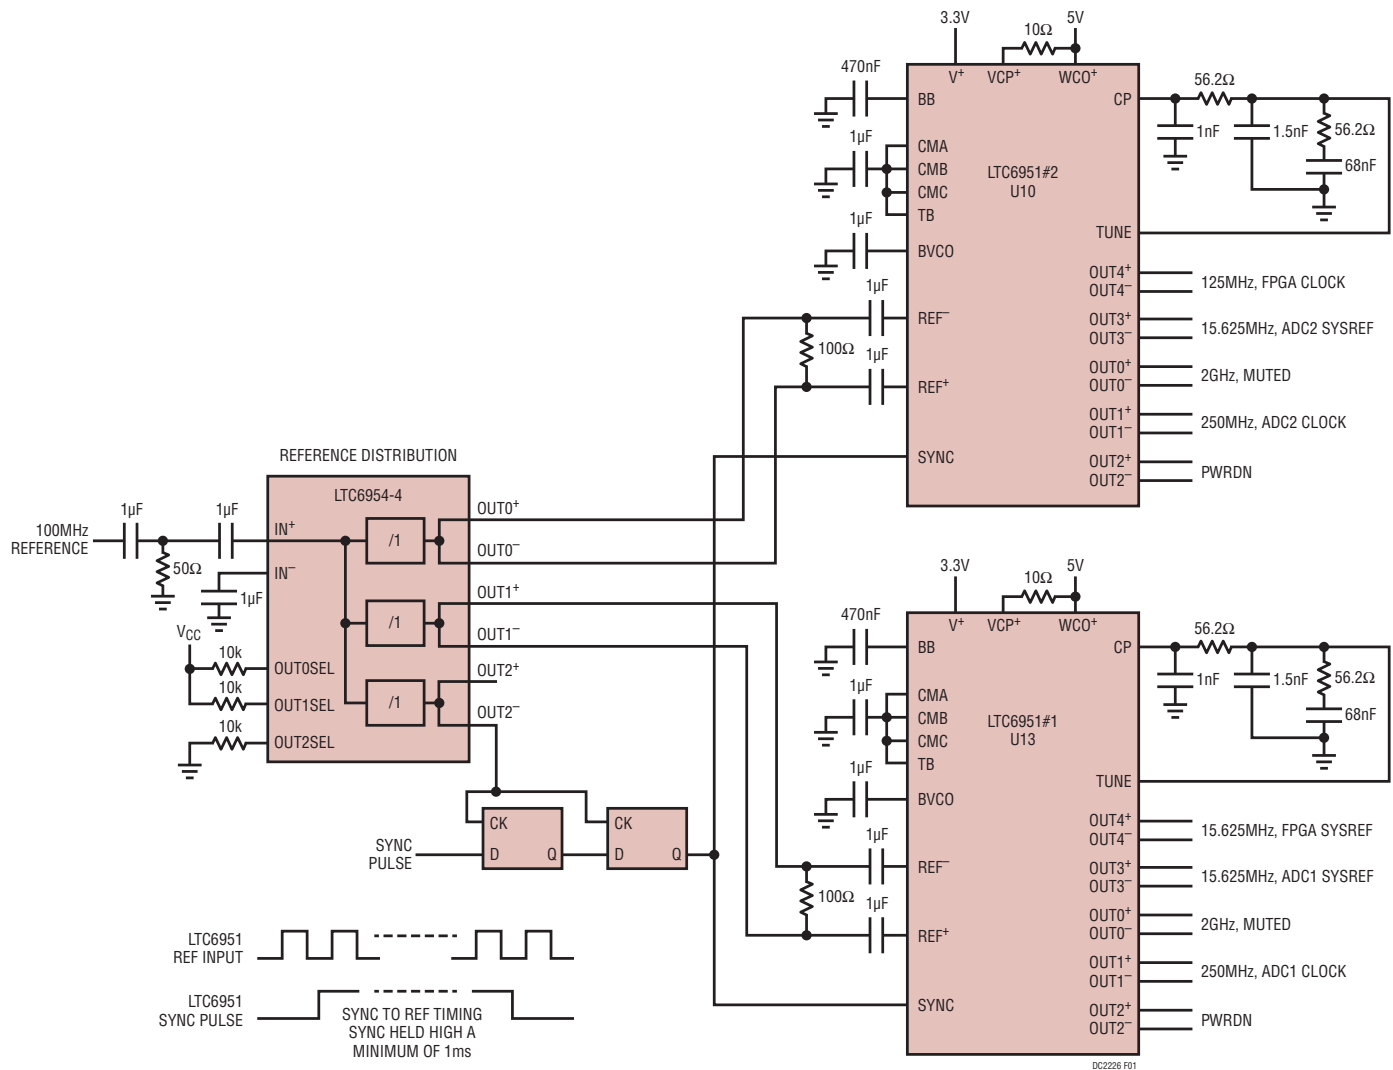

Figure 1. Subclass 1 ParallelSync Design Example
Figure 1 is a block diagram of the DC2226A clock configuration, consisting of two LTC6951s in a JESD204B subclass 1, ParallelSync™ configuration. More detailed information is available on the LTC6951 product page.
- 1) If the boards were obtained separately, assemble them as shown in Figure 1 (FMC connectors are fragile, make sure they are properly aligned before seating.)